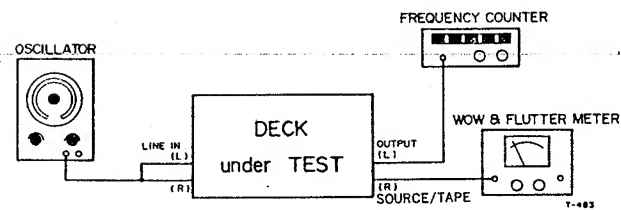

Fig. 7-5 Test Connections for Wow/Flutter and Tape Speed Test
- 1. Connect Test equipment to the unit as shown in Fig. 7-5. (Except oscillator).
- 1. Connect Test equipment to the unit as shown in Fig. 7-5.